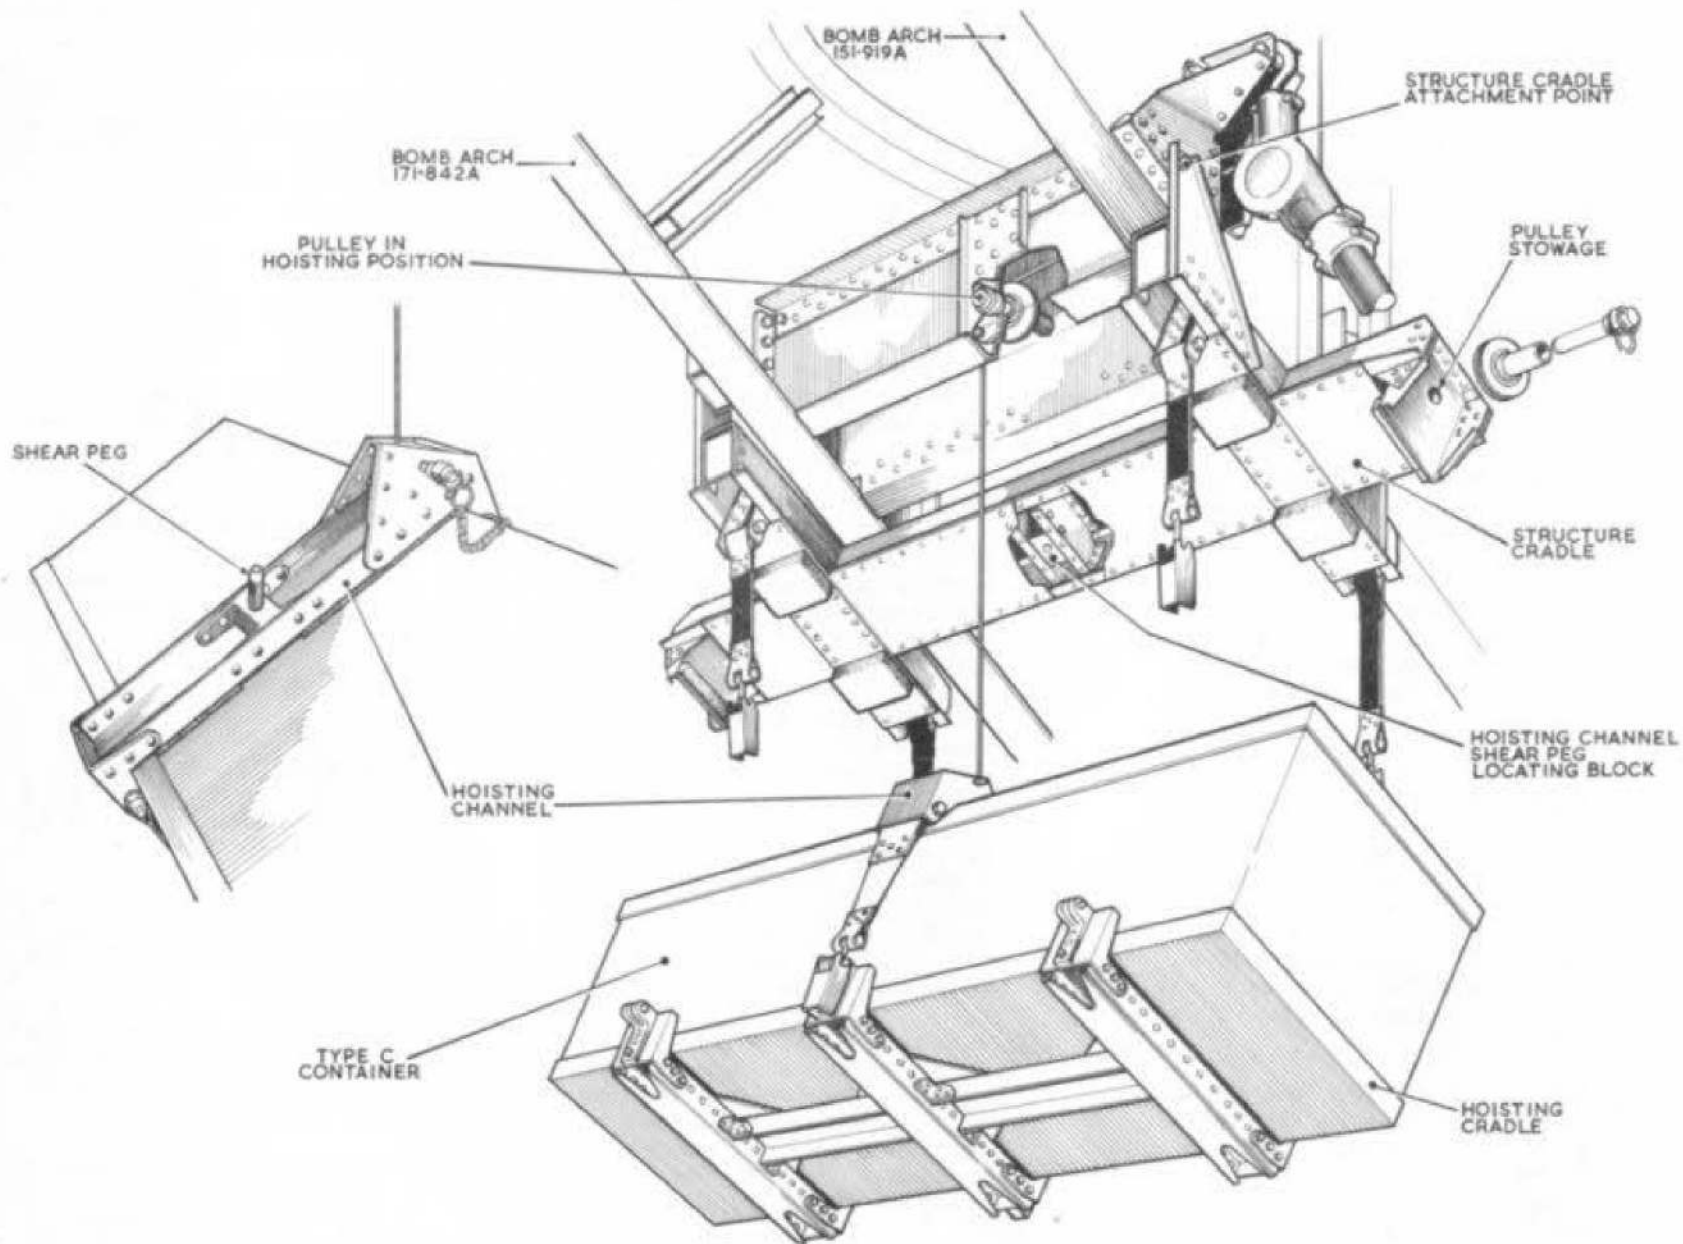

Fig.3. Fitting Type C container
31. Fitting the Type C container is illustrated on fig.3 and the procedure is as follows:-